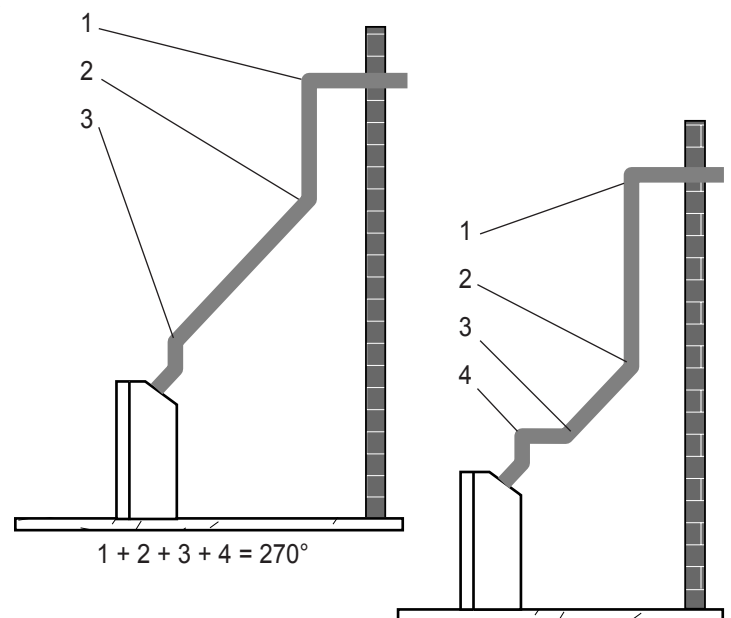

Figure 22 - Maximum Elbow Usage
- The maximum number of 45° elbows permitted per side wall installation is two (2). These elbows can be installed in either the vertical or horizontal run.
- The maximum number of elbow degrees in a system is 270°. *See Figure 22.*